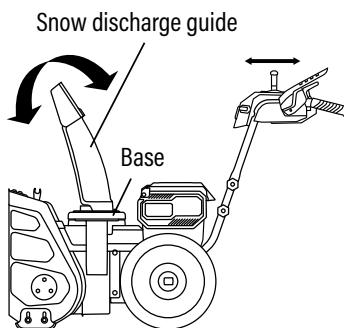

Fig. 10B
1. To increase or decrease the distance that the snow is thrown, press and pull the chute deflector handle backward or forward to raise or lower the chute deflector (Fig.10B).